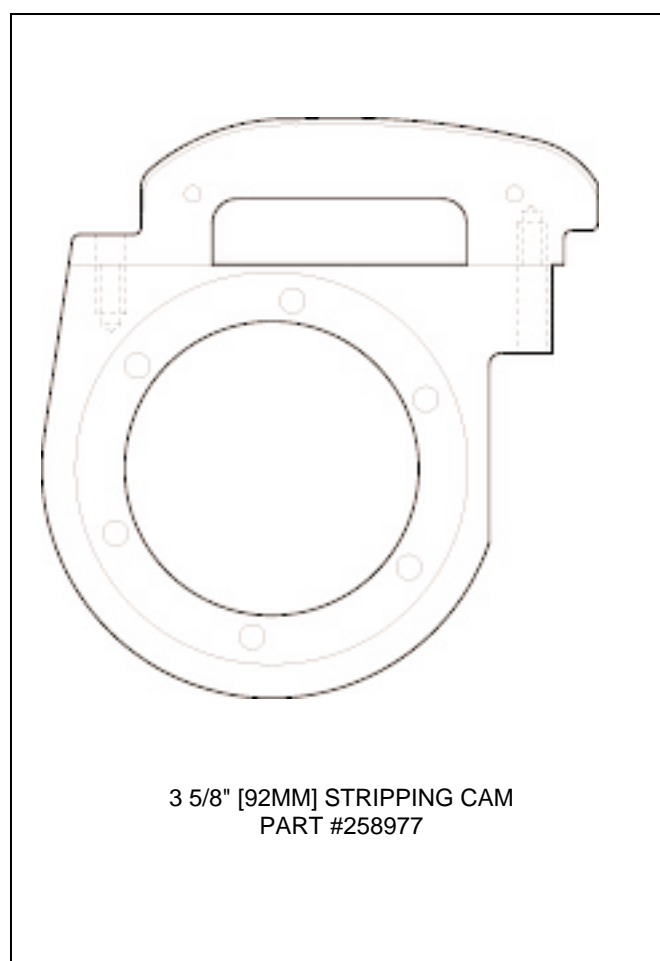

Figure 4.46 STRIPPING CAM INSERT
- 4.3.30 Install the **3 5/8" [92mm]** stripping cam insert **part # 258977** (see figure 4.46).